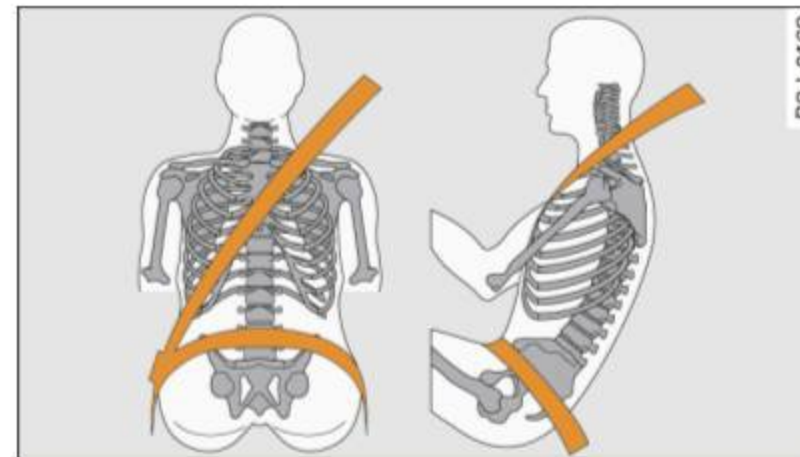

Fig. 154 Head restraint and safety belt position as seen from the side
- The safety belt must lie flat and snug on the occupant's upper body ⇒ *page 165, fig. 154*. Pull on the belt to tighten if necessary.
- The lap belt portion of the safety belt must be positioned as low as possible across pelvis and never over the abdomen. Make sure the belt lies flat and snug ⇒ *page 165, fig. 154*. Pull on the belt to tighten if necessary.